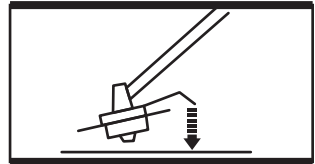

Fig. 15e
- 9). The trimmer head is equipped with a bumper (B7) helping to cut the trimming line (B6) while operating. Simply tap the bumper on a firm surface and the spool will release fresh trimming line. (See Fig. 15e)